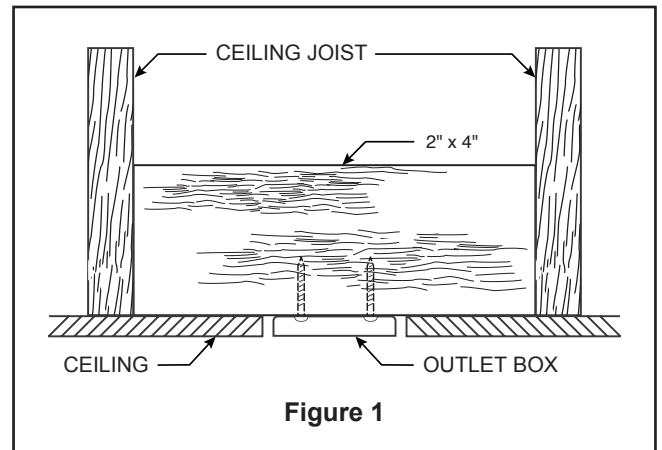
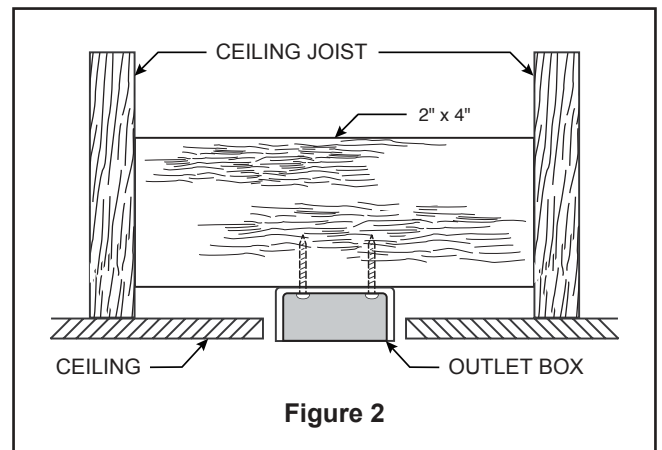
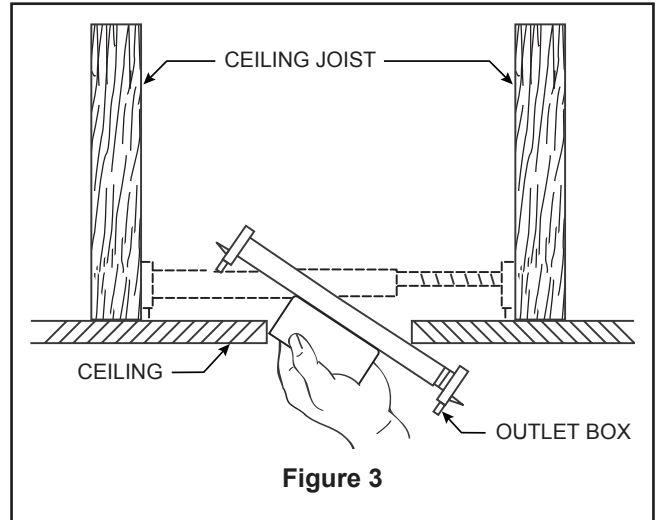

Figure 1
Figure 2
Figure 3
Your new ceiling fan will require a grounded electrical supply line of 120 volts AC, 60 HZ, 15 Amp Circuit. Electrical code requires use of a fan-rated outlet box to support the extra weight and motion associated with a ceiling fan. A fan-rated box will be labeled as such and typically supports up to a 70lb ceiling fan. Fan-Rated Outlet Boxes vary in ratings and design. Ensure the ratings of your ceiling fan outlet box meet the requirements for the ceiling fan being installed. Figure 1, Figure 2 and Figure 3 depicts different structural configurations that may be used for mounting the outlet box.
Low profile box (Figure 1)
Deep box (Figure 2)
Deep box with brace (Figure 3)
3. Loosen the two set screws and locking nuts in the downrod support of the motor assembly. Route the black, white and blue wires through the downrod. (Figure 3)
1. Securely attach the hanger bracket to the outlet box (not included) using the outlet box screws and washers supplied with the outlet box. (Figure 3)
2. Slide the receiver into the hanger bracket before wiring as shown in figure 3.